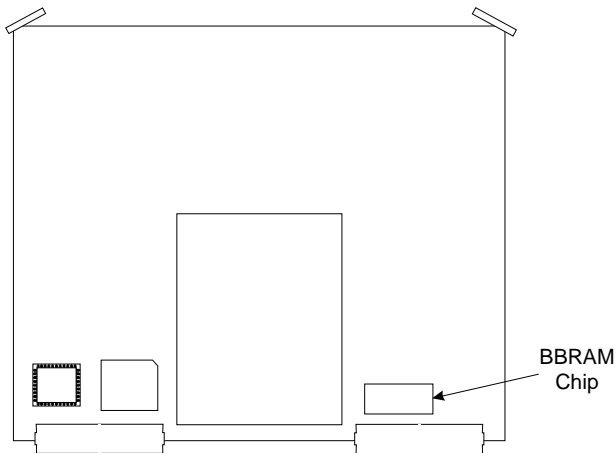

Figure 8-3. Location of BBRAM Chip on the A9 PCB
Step 3. Locate and remove the BBRAM chip from the A9 PCB. See Figure 8-3.